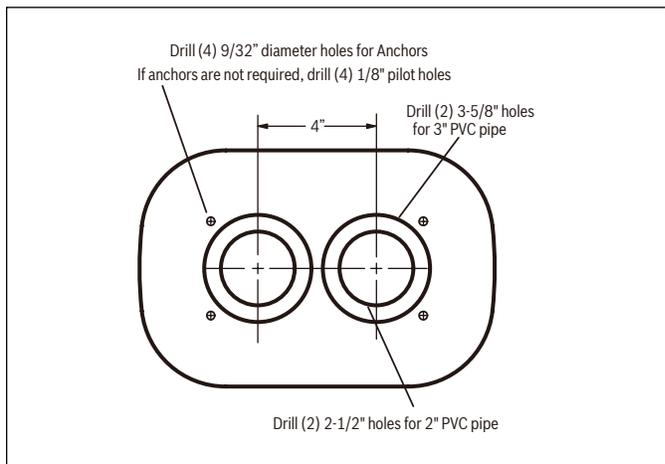
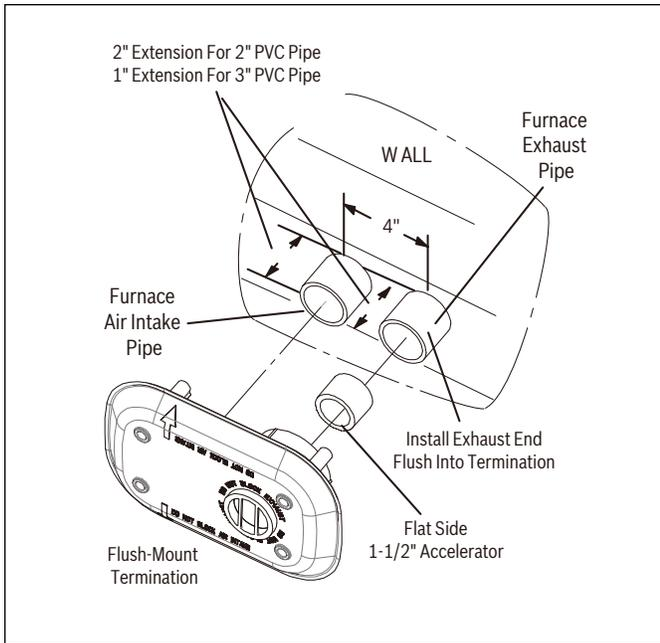
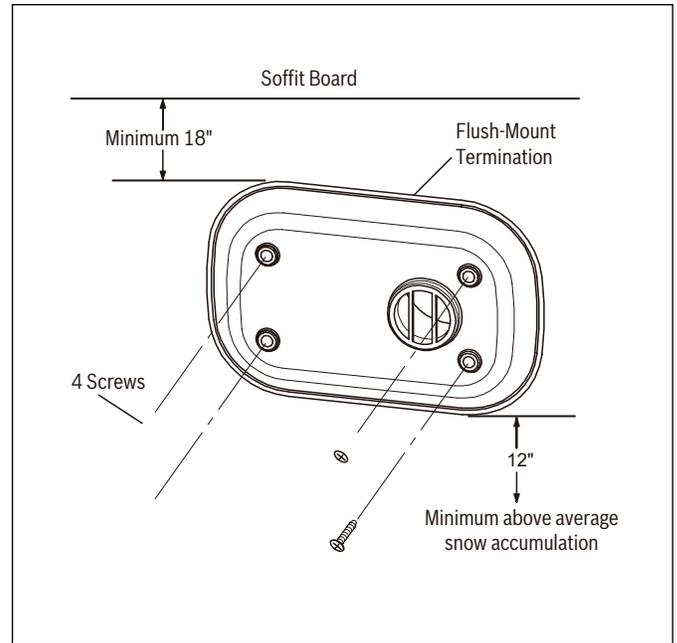
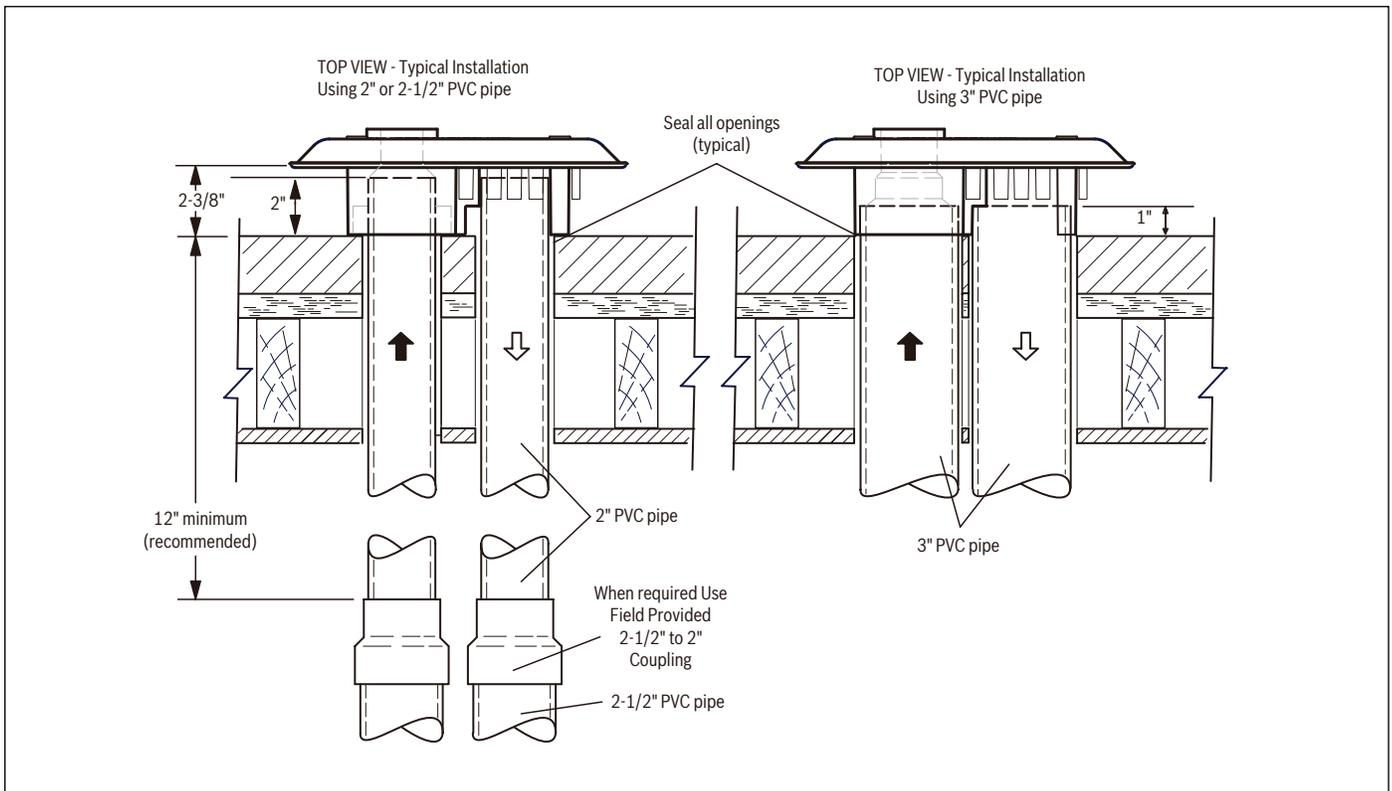

Figure 37 Mounting template
Figure 38
Figure 40
Figure 39 Typical installation
4. Using the template as a guide, drill two 3-5/8" holes for 3" PVC pipe or two 2-1/2" holes for 2" PVC and 2-1/2" PVC pipe. For 2-1/2" PVC installations transition to 2"PVC and install into flush-mount as shown in Fig.39. Do not vary from the template. All dimensions are critical. There must be 4" center line to center line for either 3" pipe or 2" pipe. See Fig.37.
5. When determining pipe length, include the length of exhaust and intake pipes that extend beyond the wall and are flush into the flush mount termination. For 3" pipe add an extra inch to the overall length. For 2" pipe add an extra 2" to the overall length. See Fig. 38.
6. The 1-1/2" accelerator must be used for all unit installations. Fully insert and glue the accelerator (flat side first) into the 2" exhaust opening. See Fig.38.
7. Install the intake pipe and exhaust pipe through the holes drilled in step 4 and into the flush mount termination. Exhaust pipe may be glued but it is not necessary. See Fig.38. Seal all openings as indicated in Fig.39.
8. Secure the flush-mount termination to the wall using the provided screws and anchors or field-provided screws if applicable. See Fig.40. Termination should be flush against the wall as shown in Fig.39.